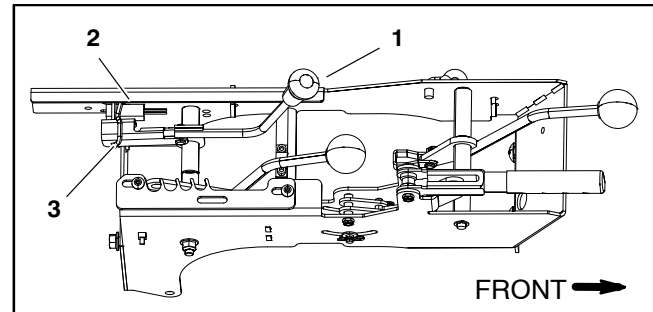

Figure 17
The lift lever interlock switch is a normally open proximity switch that is attached to the control lever support (Fig. 17). The interlock switch is in its normal open position whenever the hydraulic lift lever is moved away from the neutral position. When the lift lever is in the neutral position, the retainer pin that attaches the lift lever link to the lift valve is positioned close to the interlock switch causing the switch to close. The closed lift lever switch is used in the starting interlock system to make sure that the hydraulic lift circuit is disengaged during engine starting.
3. Locate the hydraulic lift lever interlock switch (Fig. 17).
5. With the use of a multimeter (ohms setting), test for continuity across the two (2) switch terminals. There **should be** continuity (zero ohms) when the lift lever is in the neutral position and there **should not be** continuity (infinite ohms) when the lever is not in the neutral position.